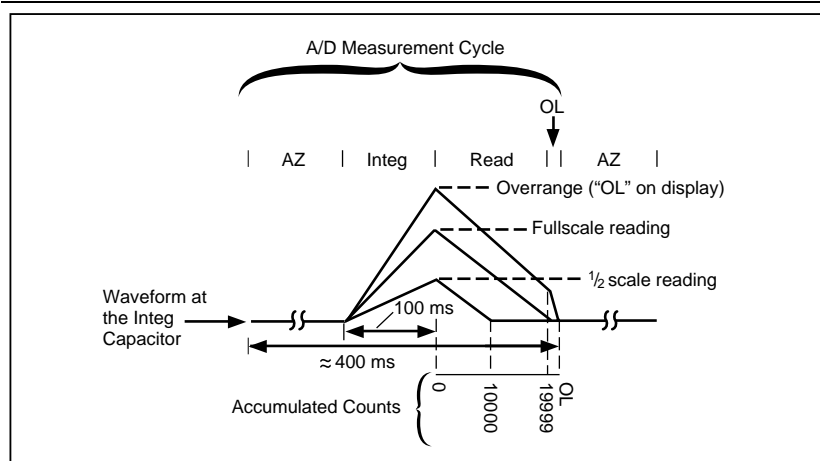

Figure 3-3. A/D Measurement Cycle
The complete a/d measurement cycle is shown in Figure 3-3. It consists of three consecutive time periods: autozero (AZ), integrate (INTEG) and read. A fourth time period, overload (OL) is also used if an overrange reading is taken. The total length of the measurement cycle is 400 ms. The length of the integrate period is fixed at 100 ms. One hundred ms is a multiple of the period of 50 Hz or 60 Hz power, which helps to reduce the possible power line noise that might interfere with the measurement. The waveform at the INTEG capacitor is shown for three sample measurement readings: half-scale, full-scale, and overrange.